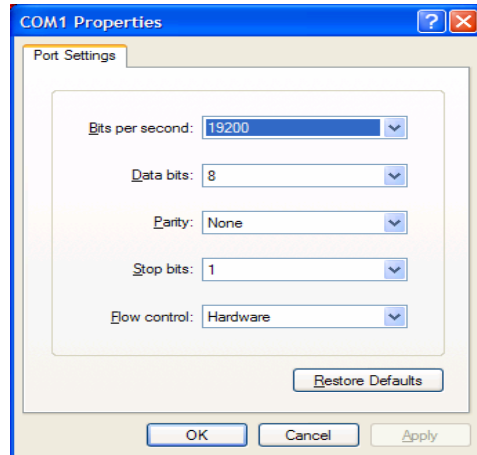

Figure 5. Establishing the port settings
- b. Select the appropriate port settings for the tty communications port, and then click **OK** (see Figure 5).